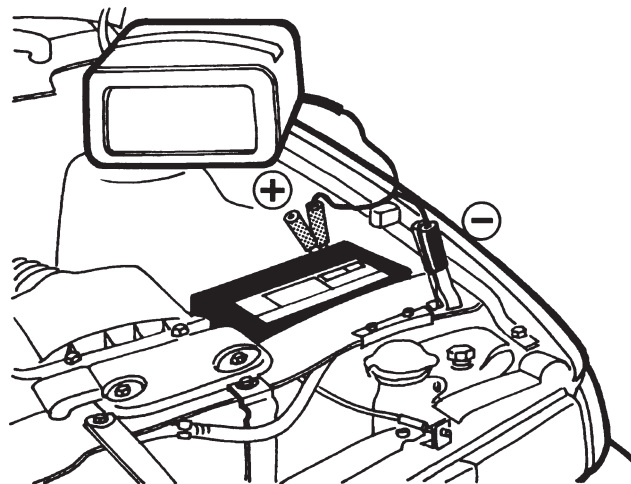

FIGURE 7: CONNECTION TO NEGATIVE-GROUNDED BATTERY
5. For a negative-grounded vehicle, connect POSITIVE (RED) clamp from battery charger to POSITIVE (POS, P,+) ungrounded post of battery. Connect NEGATIVE (BLACK) clamp to vehicle chassis or engine block away from battery. Do not connect clamp to carburetor, fuel lines, or sheet-metal body parts. Connect to a heavy gage metal part of the frame or engine block (see Figure 7).